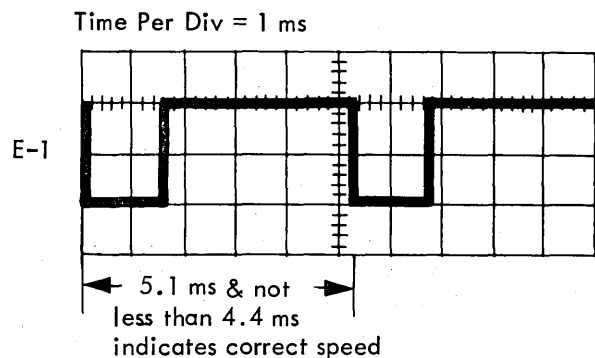

Figure 1-47. Low Speed
1. Low-speed skip (Figure 1-47). (4.14.4)